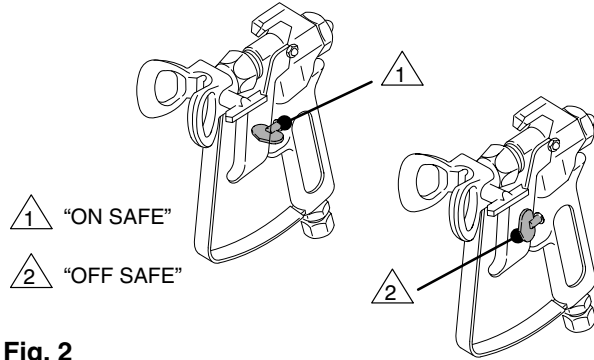
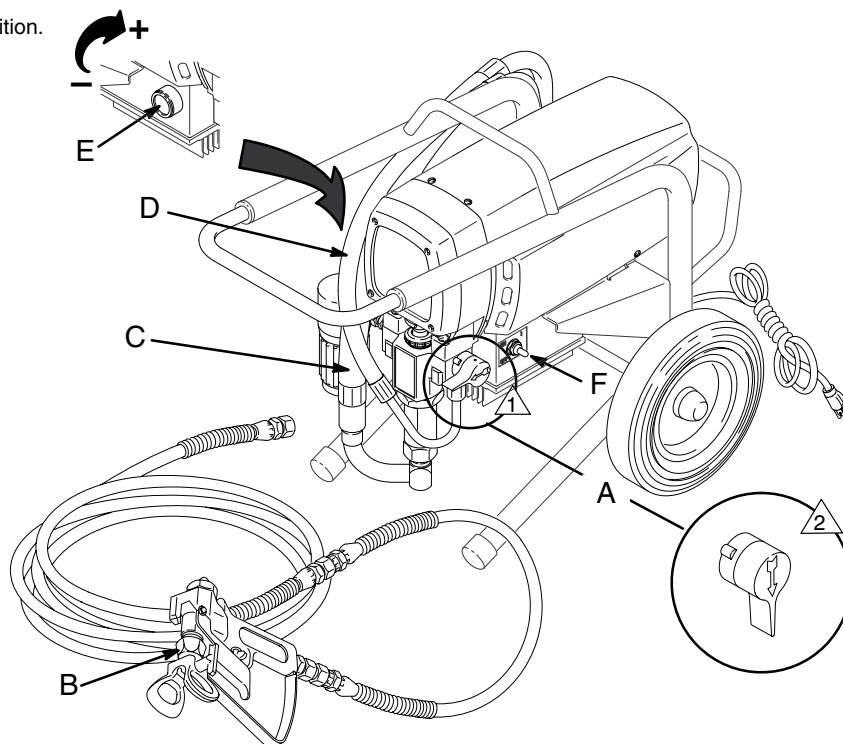

Fig. 2
Fig. 6
When engaged, the gun safety latch prevents the gun from accidental triggering. See Fig. 2.
1. **Open the pressure drain valve (A).** See Fig. 6.
3. **Put the suction hose (C) into the paint.** If you are pumping from a 1 gallon (5 liter) pail, push the drain hose (D) down below the top of the pail to avoid splashing paint when the drain valve is opened.
4. **Turn the pressure knob (E) to the minimum setting.**
5. **Disengage the gun safety latch.** See Fig. 2, page 10.